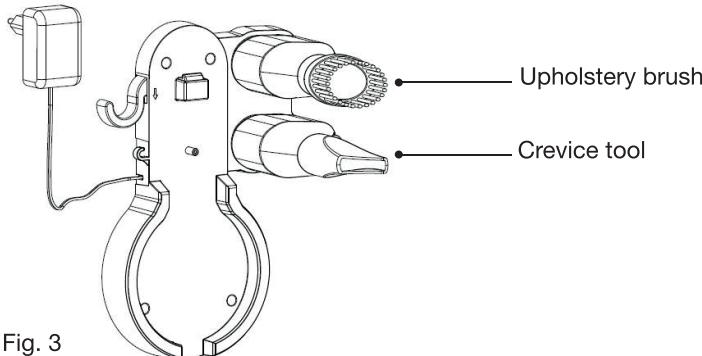

Fig. 3
- You can store the crevice tool and the upholstery brush on the wall-mounted base (Fig. 3).